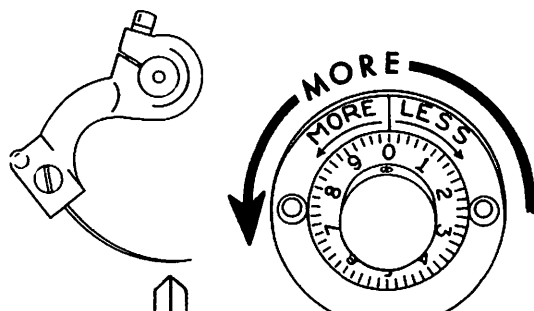

FIG. 4
5. If rib is away from needle (Fig. 4), turn dial toward "MORE" until rib just touches needle.